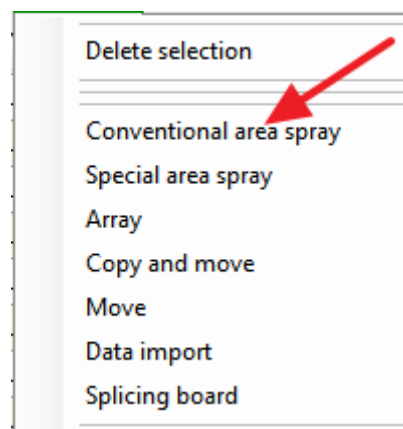

Figure 4-11 11Select the feature
1. After editing the full track of a product, click the "Track Settings" button as shown in Figure 4-11.